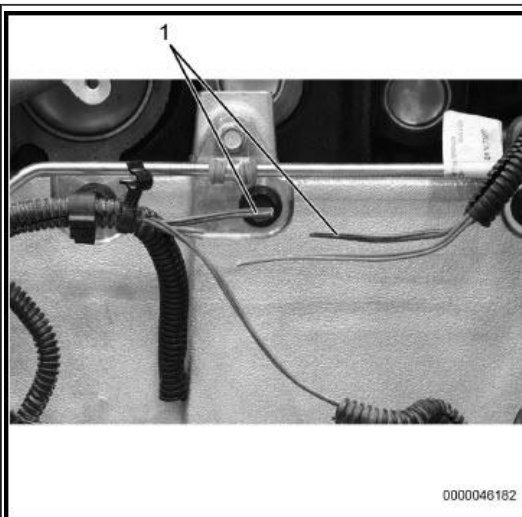

Figure 3: Damaged Engine Harness Wiring.
6. Cut and remove damaged portion of engine wiring harness (*Figure 3, Item 1*).